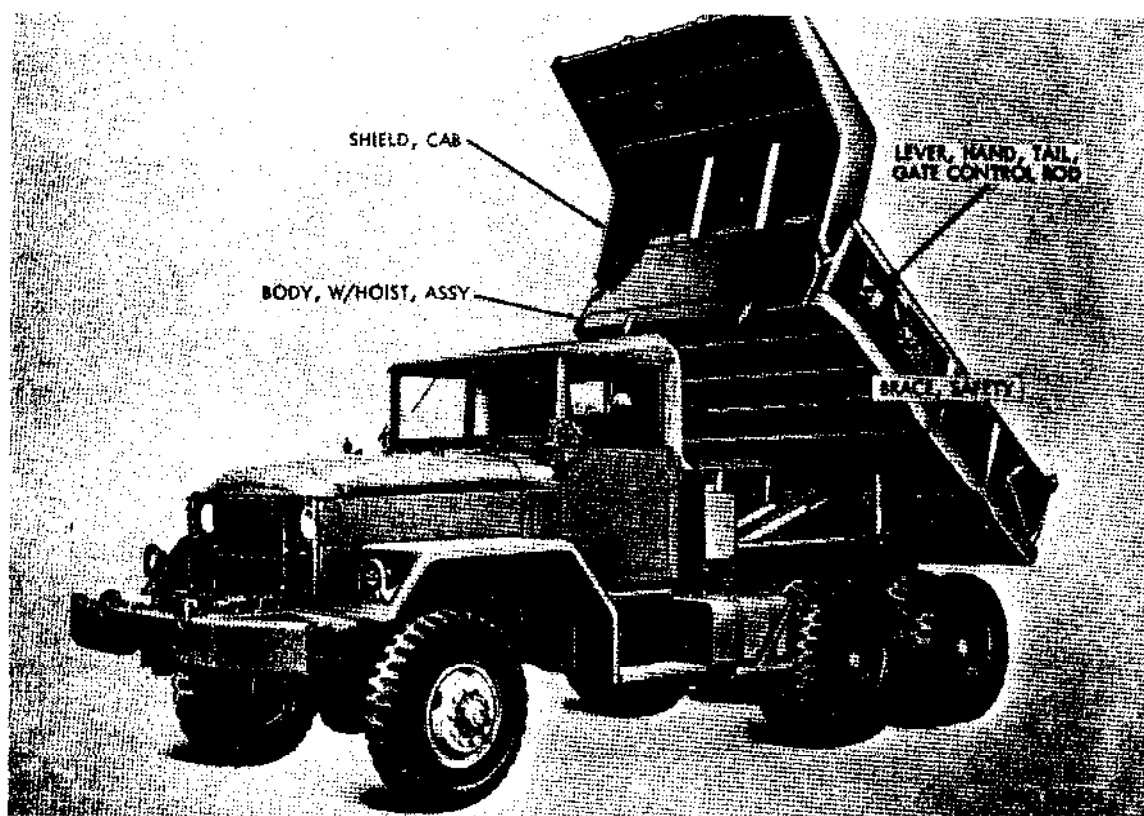

Figure 64. Dump truck M51 (body lifted) - left front view
b. Hoist Assembly (fig. 64). The hoist assembly consists of two double-acting cylinder assemblies; the hydraulic control system and
an oil reservoir are contained within the subframe unit. The cylinders are equipped with cast iron pistons, each of which has three piston rings. Cylinder assemblies are powered by oil from the positive gear-type hydraulic pump. Safety braces (fig. 64) are provided on each subframe side rail. These braces must be used at any time repair work is performed on the hoist unit. All hose used on this hoist assembly is of the double-wire, reinforced high pressure type, and must never be replaced with ordinary low pressure hose. A closed hydraulic system is provided with reservoir built into front end of subframe assembly. An oil level gage (fig. 66) is found directly under the filler cap.
a. Never work under the dump body unless safety braces (fig. 64) are properly positioned. When body is partially raised, always use a strong heavy prop to hold body in a raised position.